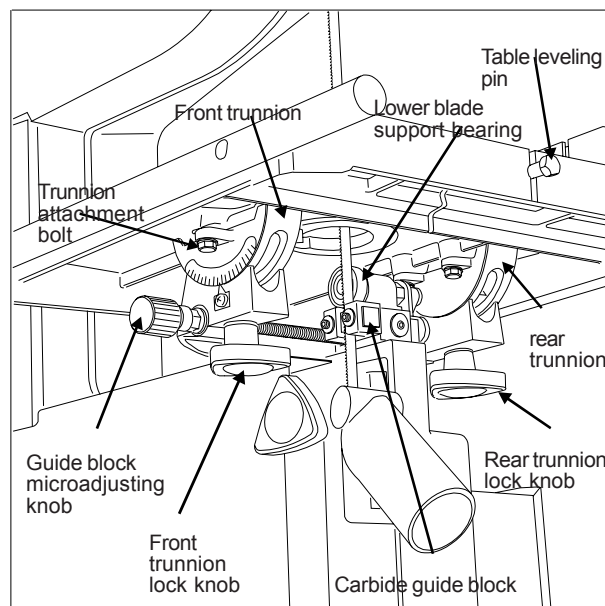

Figure 13. Lower Blade Guide Supports
4. Remove table leveling pin. The pin has a tight push fit in its slot; it is not threaded. (Refer to Figure 13).